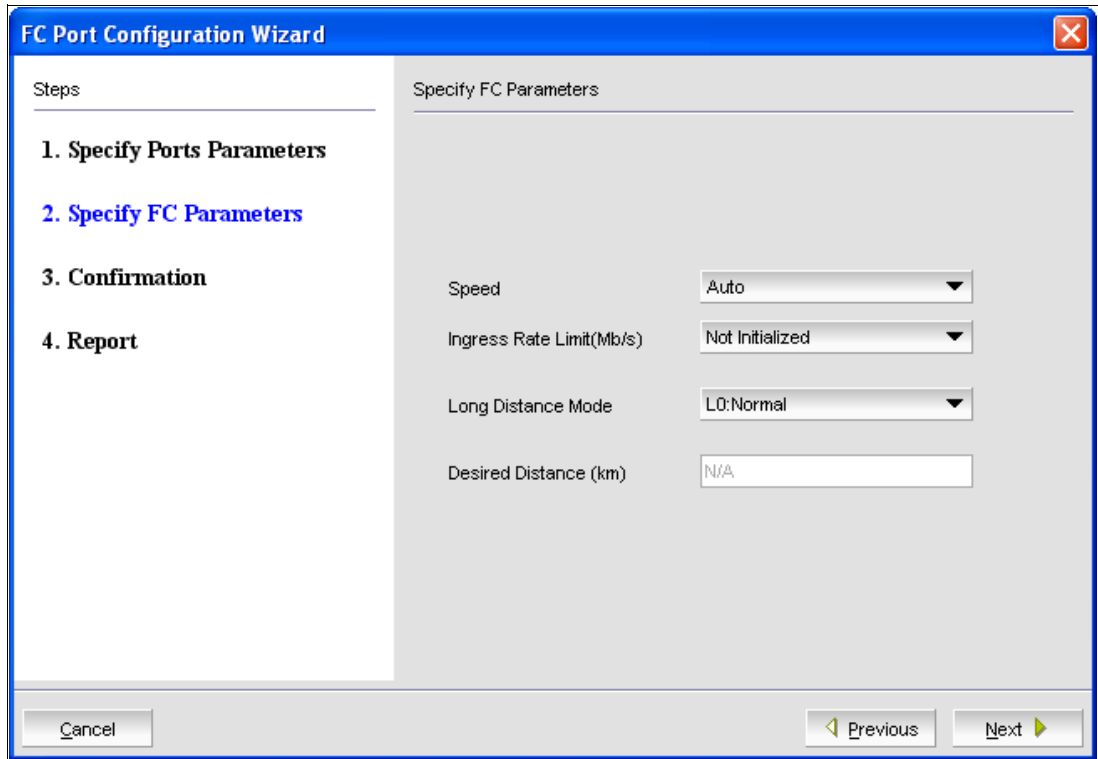

Figure 8-45 Port speed and distance configuration
7. Click **Next**, and Figure 8-45 on page 284 is displayed.